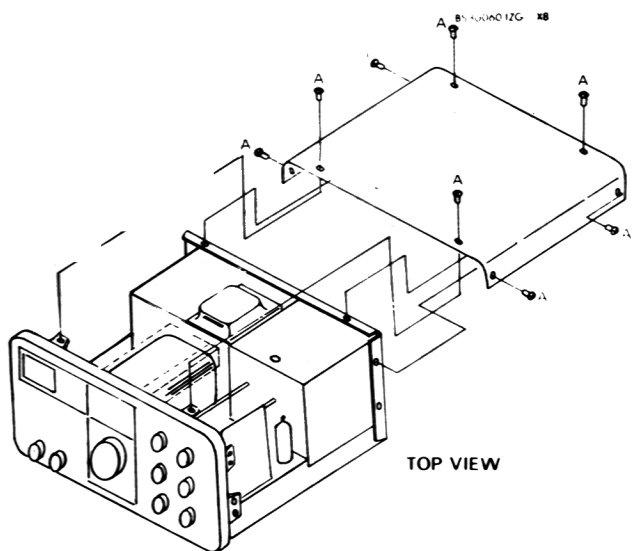

Figure 1
- (1) Remove the top cover of the transceiver case, as shown in Fig. 1.
1. Remove the top cover of the transceiver, as shown in Figure 1.
- (1) Remove the top cover of the transceiver, as shown in Figure 1.